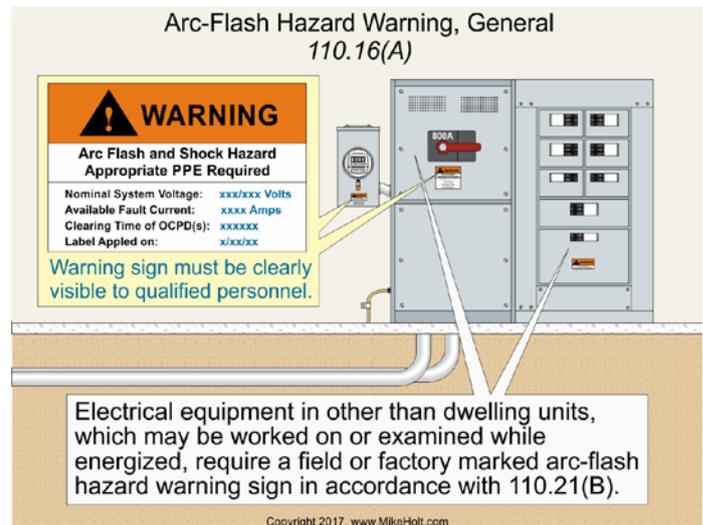

Figure 110-23
**(A) Arc-Flash Hazard Warning Label.** Switchboards, switchgear, panelboards, industrial control panels, meter socket enclosures, and motor control centers in other than dwelling units must be marked to warn qualified persons of the danger associated with an arc flash from short circuits or ground faults. The arc-flash hazard warning marking must be permanently affixed, have sufficient durability to withstand the environment involved [110.21(B)], and be clearly visible to qualified persons before they examine, adjust, service, or perform maintenance on the equipment. Figure 110-23